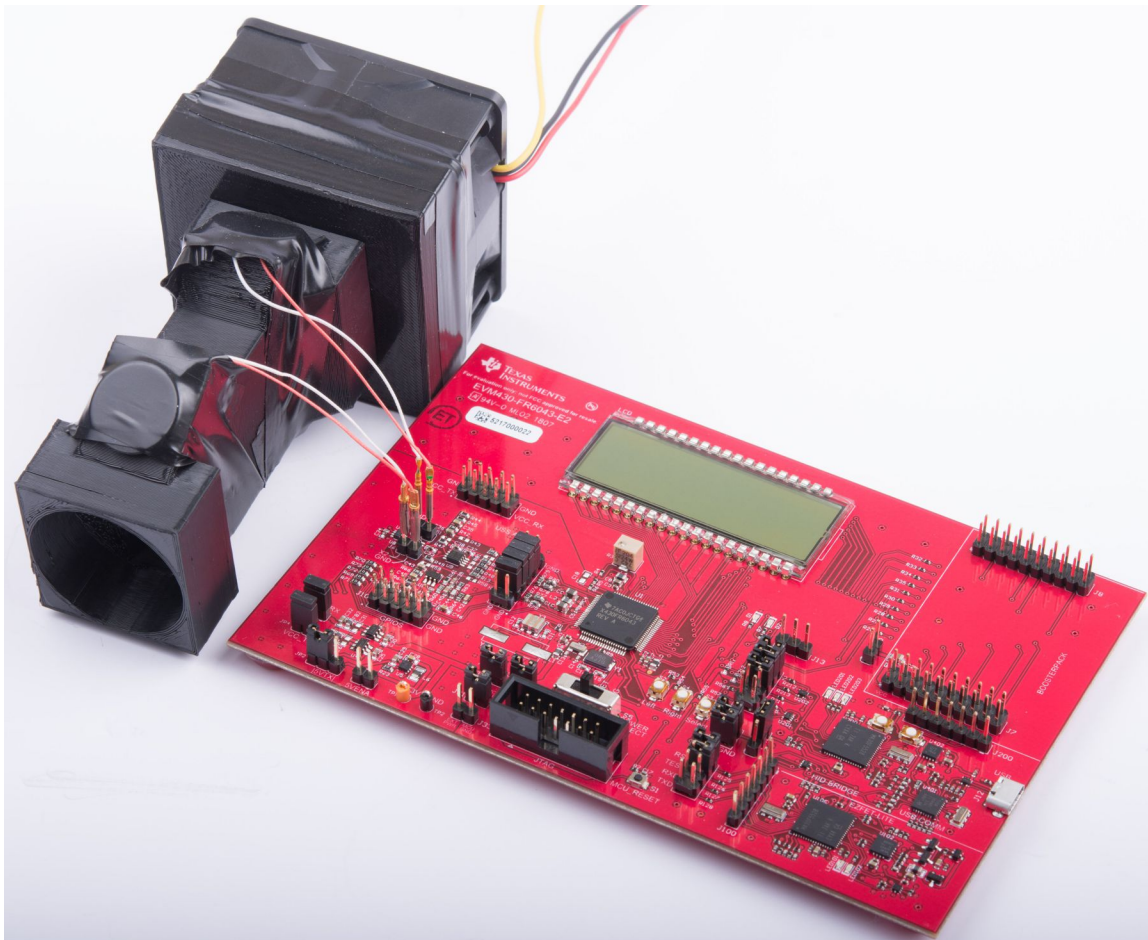

Figure 2. EVM430-FR6043 Connected to Gas-Flow Meter
- Fan with pipe connector (not included) (see Figure 2)
The demo allows developers to use custom pipes and transducers by connecting them to the J5 and J6 connectors. A DC fan can be used to demonstrate air flow (see Figure 2).
If the transducers have polarity, connect the negative or GND cable to the corresponding J5 or J6 GND pin (see Figure 2).